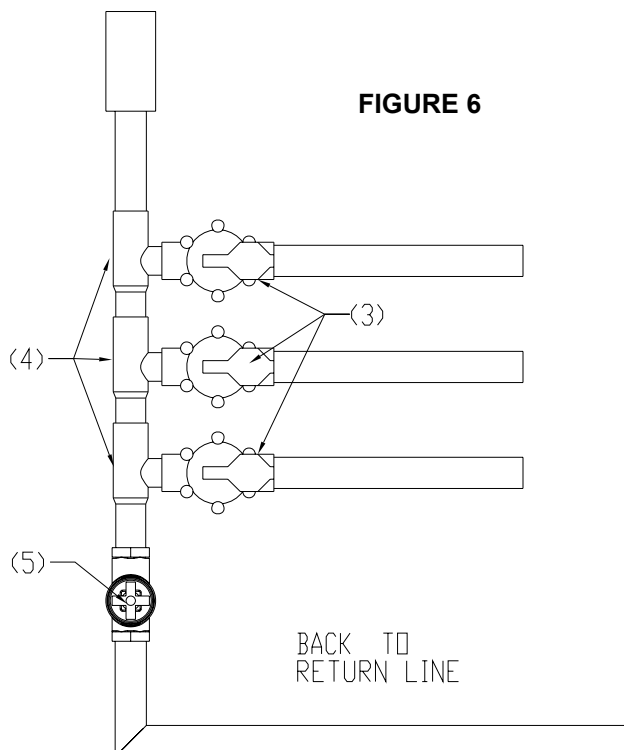

FIGURE 6
7. The valve manifold for the Poolside version should be setup as shown in **FIGURE 6**.
8. Each of the 1" Manifold Tees (4) should be attached to one of the 1" HPV Valves (3). This is done by threading the male portion of the manifold tee to the female inlet side of the valve. It is important to insure that the valve is placed in the correct direction for the system to work properly.
9. It is also important to insure that the valves are all in the same orientation before attaching the Manifold Tees (4) as shown in **FIGURE 6**.
10. The Manifold Tees (4) should first be wiped with a PVC Primer and then given a liberal amount of PVC Glue on one of the surfaces before connecting the male and female ends.
12. The last portion of the valve manifold should connect the 1" Globe Valve (5) from the end of the valve manifold back to the pools return line, as shown in **FIGURE 6**. This will work as a bypass and will allow you to manually adjust the heights of the water spray for the whole system.